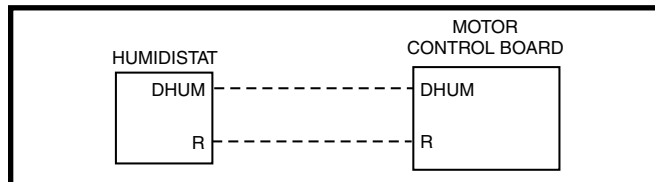

Figure 18. DHUM Wiring Configuration
- If the room thermostat incorporates a humidity sensor and **DEHUM** output, connect the **DEHUM** on the thermostat to the **DEHUM** terminal on the motor control board. See Figure 18.